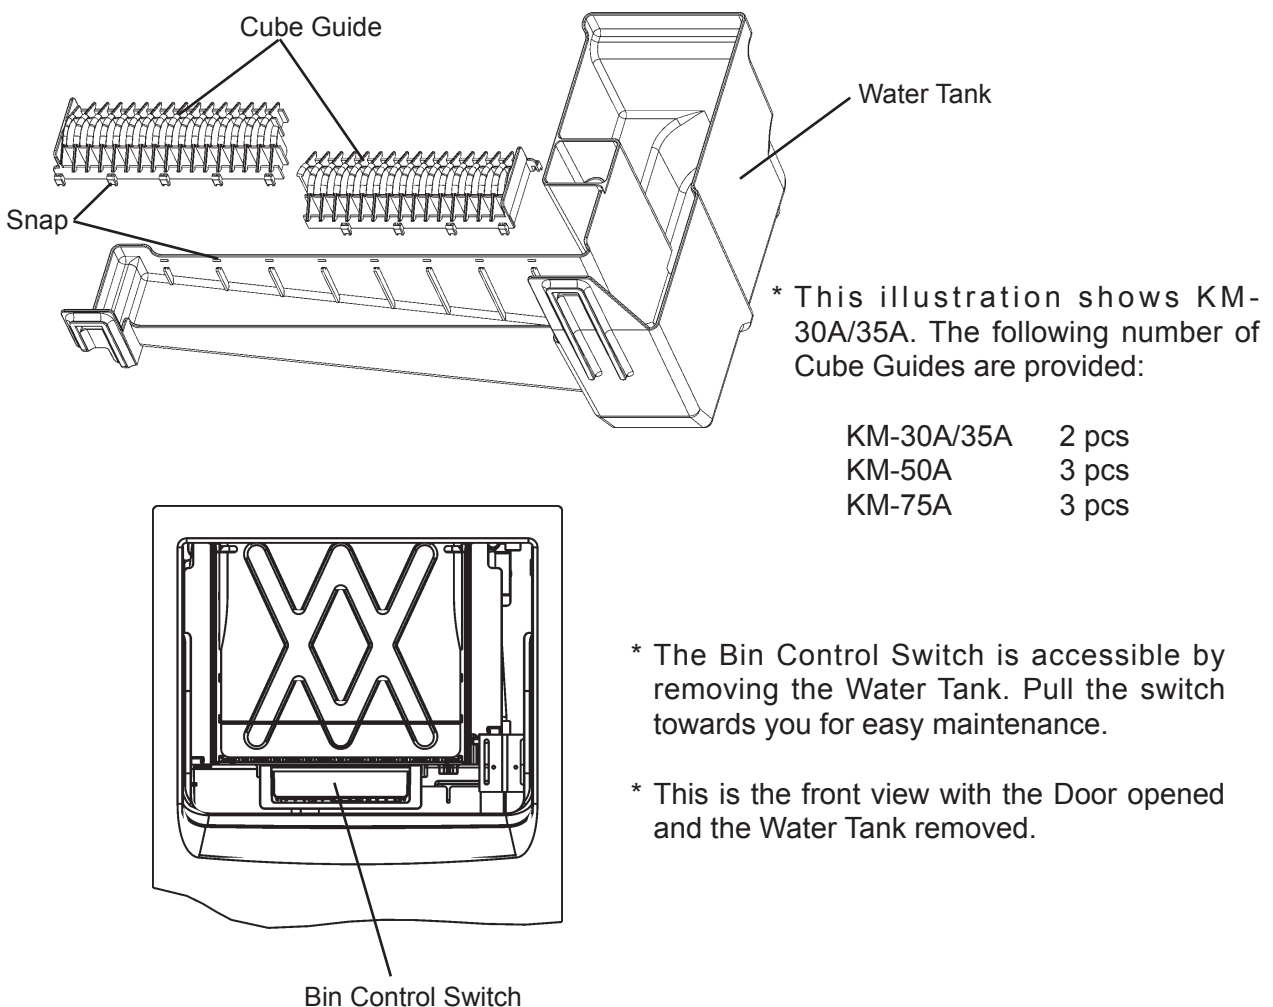

Fig. 30
- 14) Pull the Cube Guides (quantity varies depending on model) upward to remove them from the Water Tank. They are snapped in place. See Fig. 30. Refer to "V. 16. CUBE GUIDE" for details.